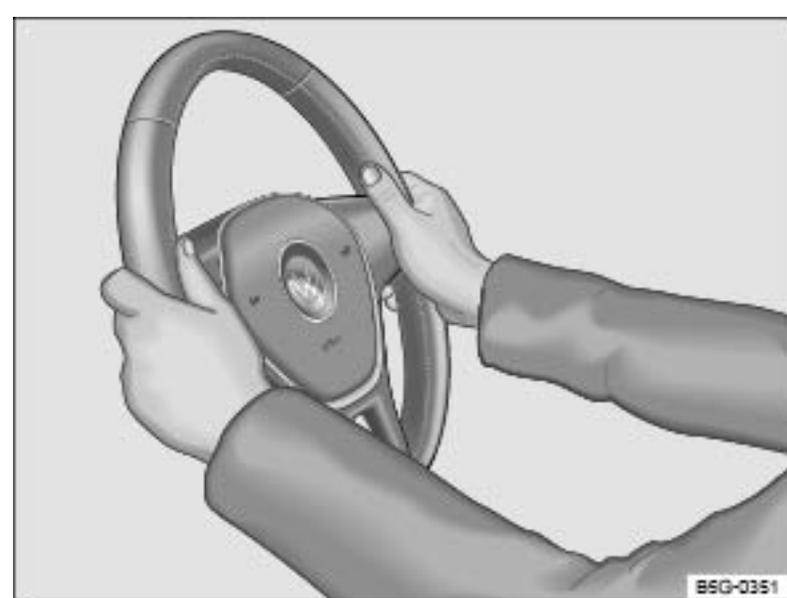

Fig. 48 Steering wheel: 9 o'clock and 3 o'clock positions.
9 o'clock and 3 o'clock positions on the outside of the steering wheel rim and with the arms slightly bent at the elbow → Fig. 48.
- Always hold the steering wheel on the outside of the steering wheel rim with your hands at the 9 o'clock and 3 o'clock positions → Fig. 48 to help reduce the risk of serious personal injury if the driver's airbag inflates.